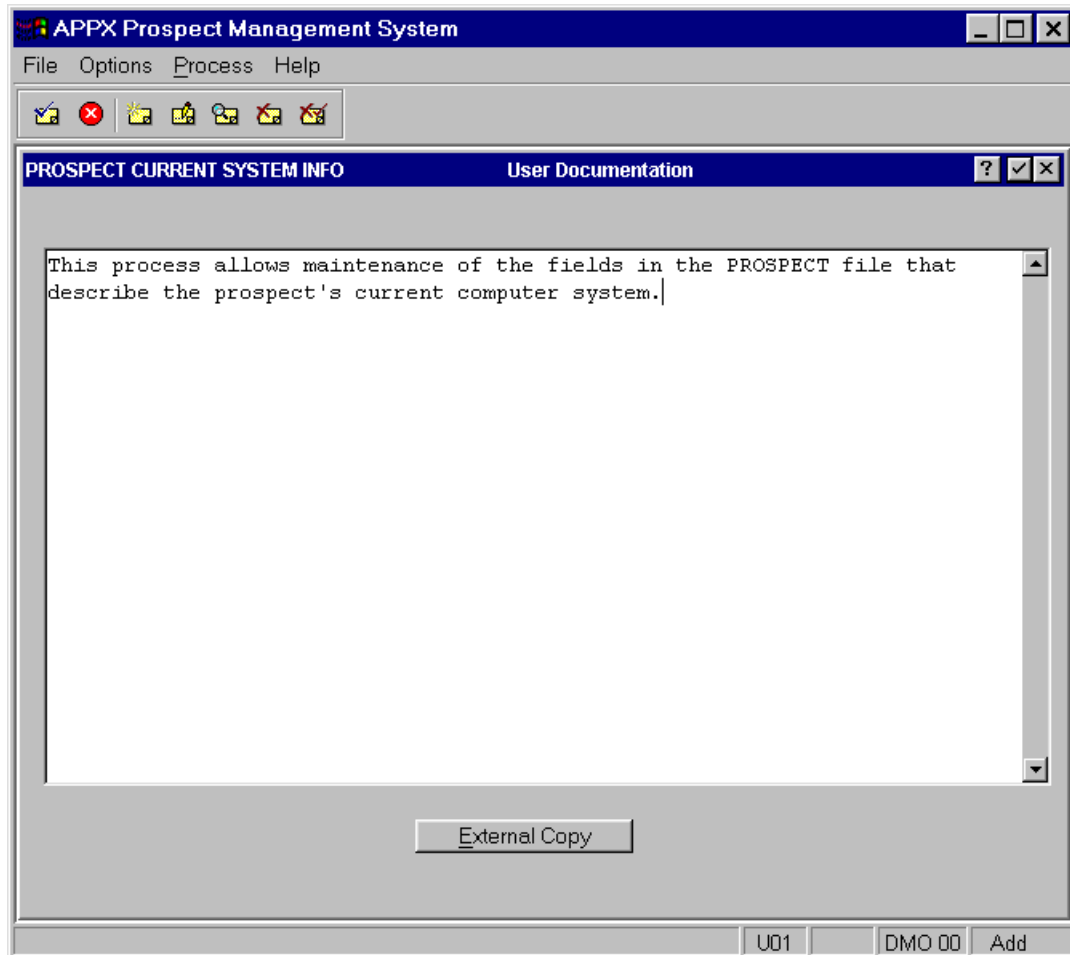

Figure E3.4 – Input Process Documentation
- Press **ENTER** to move to the **User Documentation** screen and enter documentation text for this process as shown in *Figure E3.4* below.